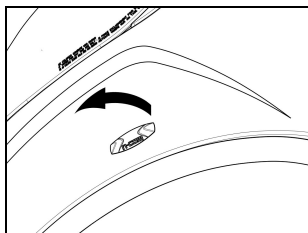

Fig. 33
- Remove the small N-Com cap positioned on the left side of the helmet. To make the operation easier, we recommend pushing the cap from inside the helmet (Fig. 33).